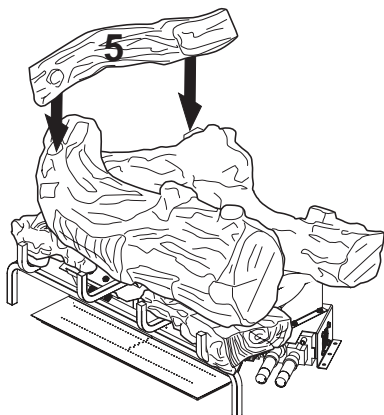

Figure 24 - Installing Log #5
5. Place top left log (#5) onto rear log (#1) and front log (#3). Match round peg on bottom of top left log (#5) with round hole in front log (#3) and square hole in log #5 with square peg on log #1 (see Figure 24).